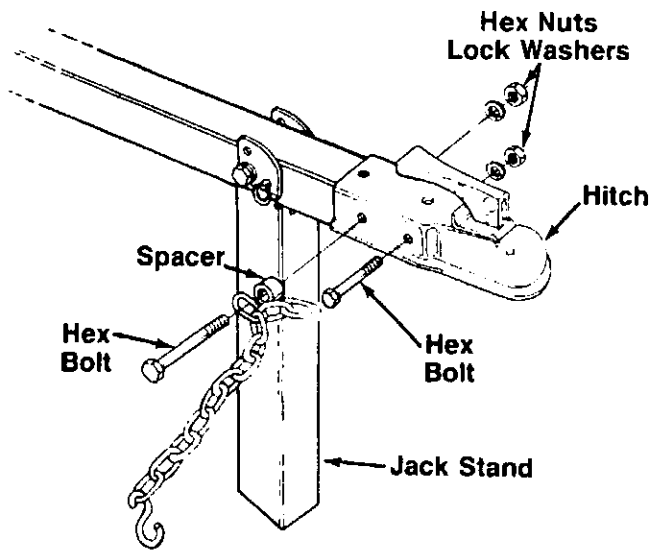

FIGURE 4.
2. Place the hitch in position on the end of the tongue. ← Secure with hardware just removed. See figure 4.